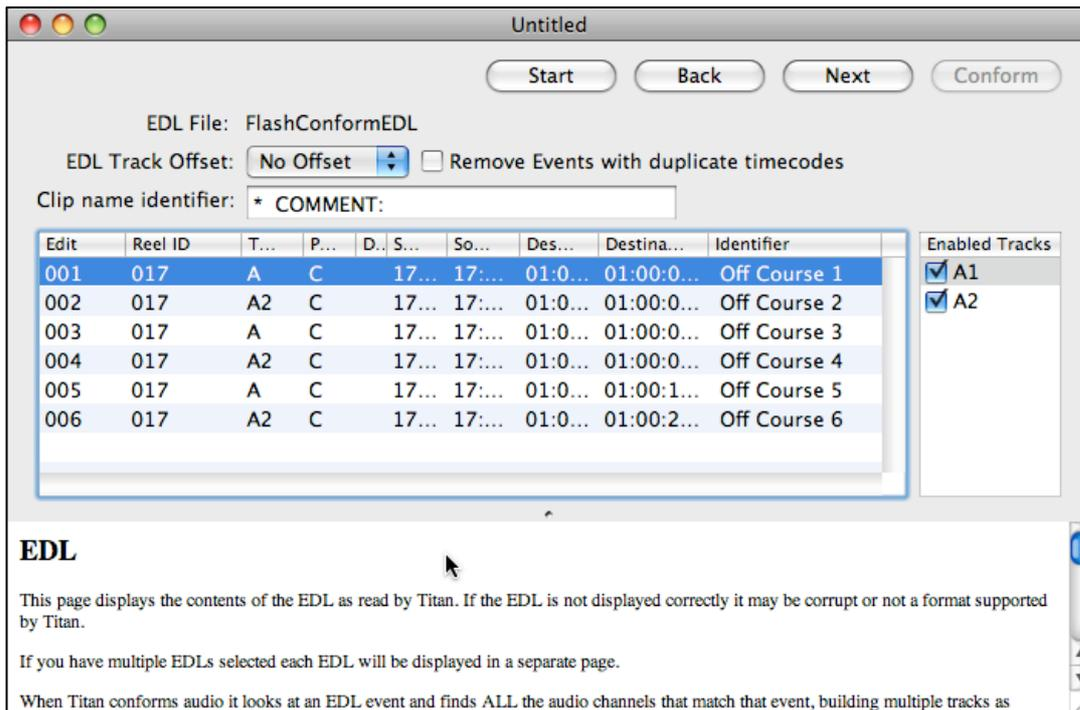

Figure 8 Review EDL page with clip name identifier correctly loaded
- If you are using the example EDL, the Review EDL page will look as shown in Figure 7. You can click and drag the column boundaries in the EDL display to show more or less of the width of each column. Some of the information may be hidden to the right, so you may need to widen the window or narrow the columns to see it. In Figure 8 the column widths have been adjusted slightly to reveal the full identifier field.
- You may need to use a different clip name identifier for your own EDLs, depending on how the information was stored. It is important that it matches the exact alphanumeric string used in the EDL. When you have done it right, the Identifier column will display the correct text. Using the example the Review EDL page will now look as shown in Figure 8.